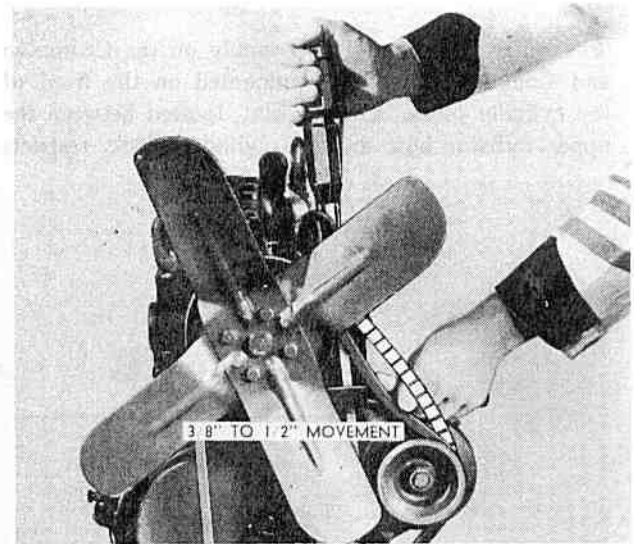

FIG. 86
**CHAMPION AND COMMANDER** The fan belt should be adjusted until there is from  $3/8''$  to  $1/2''$  (9,525 mm. to 12,700 mm.) movement of the belt. To adjust the fan belt tension, loosen the generator adjusting arm lock bolt nut and the two lower support bolts and pry the generator outward (see Fig. 86). When the correct belt tension is obtained, tighten the two bolts and the adjusting arm lock bolt nut and recheck the belt adjustment. The fan belt should be kept reasonably tight. Excessive tension, however, will result in placing undue strain on the fan and generator bearings.